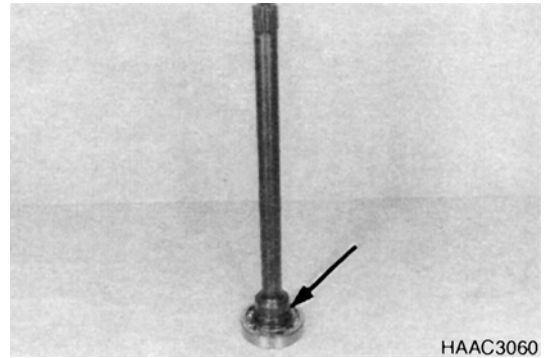

Figure 229
7. Squeeze rectangular ring (Figure 229) in and hook it in.